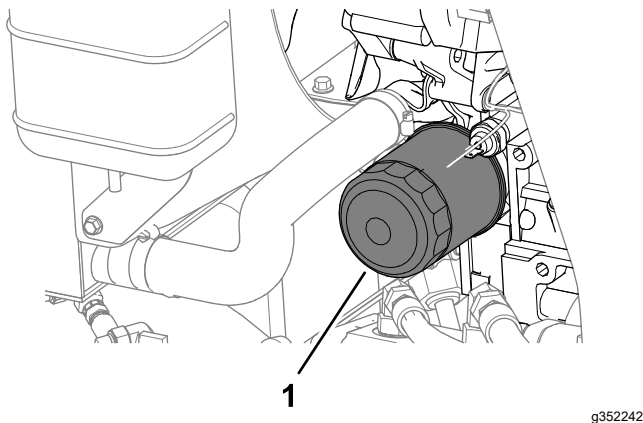

Figure 71
4. Remove the oil filter (Figure 71).